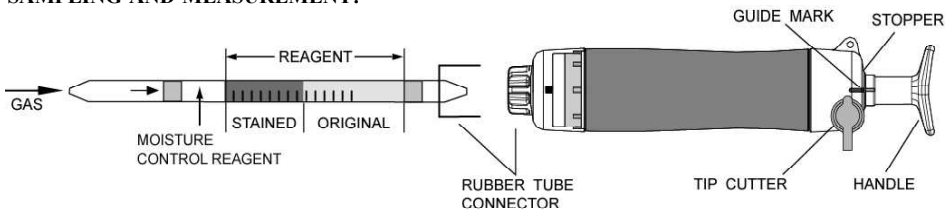

Fig.1
- ② Insert the detector tube into aspirating pump securely as shown in Fig.1. (Arrow mark shall point to the pump.)
- ③ Align the guide marks on the shaft and stopper of the aspirating pump.
- ④ Pull the pump handle at full stroke locked position and wait for 1 minute or until the completion of sampling is confirmed with the flow indicator of the pump (See descriptions about the flow indicator in the instruction manual of the pump).
- ⑤ On completion of sampling, read the scale at the maximum point of the stained layer.
- ⑥ In case of 2 pump strokes, turn the pump handle right or left by 1/4 (90°), push it towards the pump without removing the detector tube from the pump inlet, turn it right or left by 1/4 (90°) and repeat the step ③-④ once. True concentration is half of the reading value.